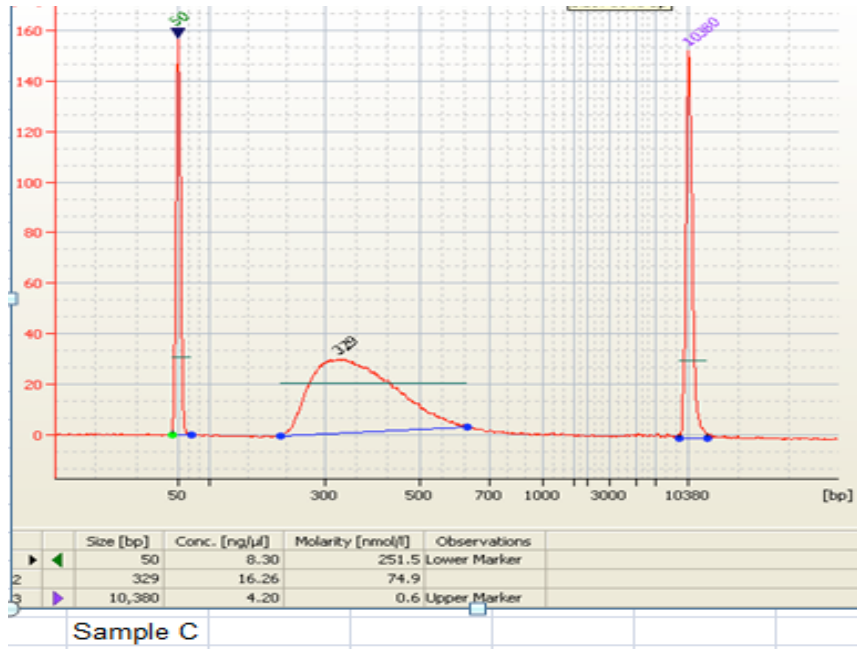

Figure 3: Agilent bioanalyzer results of final library
5. Run an Agilent Bioanalyzer 2100 DNA Chip 7500 to check size distribution and quantity of PCR product. Make sure there is no excess primer left in the eluted sample (see Figure 3 for example).